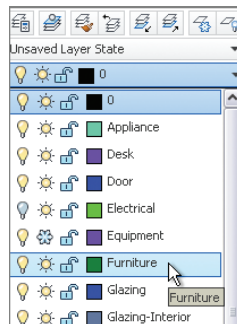

FIGURE 6.6 Setting Furniture as the current layer using the drop-down menu in the Layers panel
4. If you plan on drawing more than one object, a more efficient approach is to set the current layer prior to drawing, so that the new object will have the proper layer assignment automatically. Open the Layer drop-down menu in the Layers panel, and click on or to the right of the word Furniture to set this layer as current. Notice that Furniture appears “on top” when the drop-down is closed (see Figure 6.6); Furniture is now the current layer.